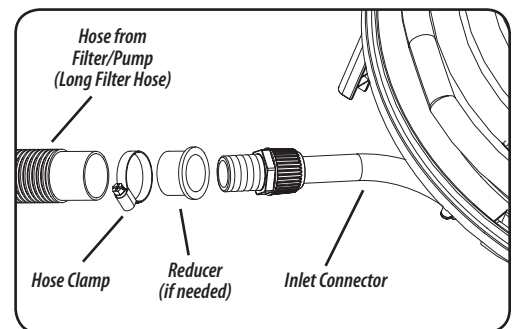

Figure 2
- Locate the inlet connector and the long filter hose. Attach the long filter hose between filter outlet (the port where the pool return hose was previously connected) and the inlet connector (located at corner of heater) using the included hose clamps (see figure 2).
NOTE: Depending on the size of your hose, the 1¼"-1½" reducer may need to be used. Insert the reducer inside of the long filter hose and attach using hose clamp. Apply a small amount of silicon based lubricant to the outside of the side connector to allow an easy fit (see figure 2).